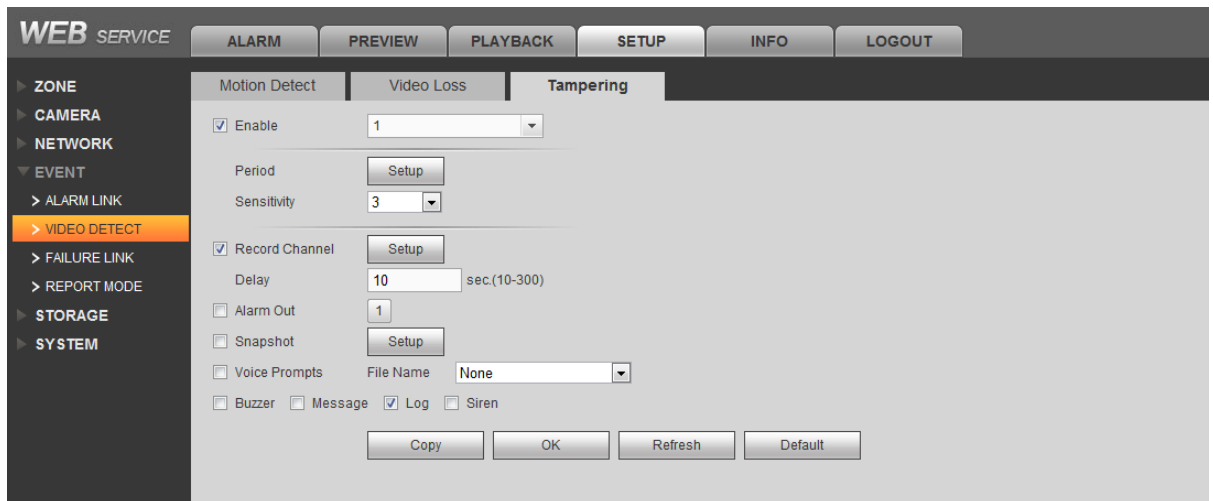

Figure 4- 16
Step 1. Select SETUP>EVENT>Tampering. See Figure 4- 16.